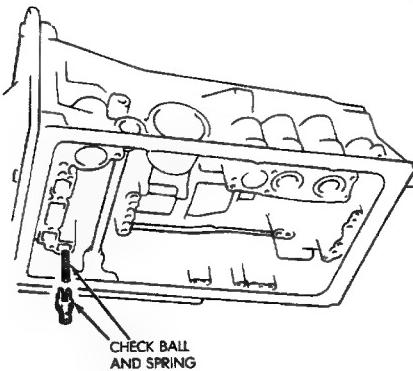

Fig. 16 Removing/Installing Valve Body Check Ball And Spring
(8) Remove valve body and check ball and spring (Fig. 16).
- (2) Install check ball and spring (Fig. 16).
- (3) Position accumulator springs and spacers on valve body.